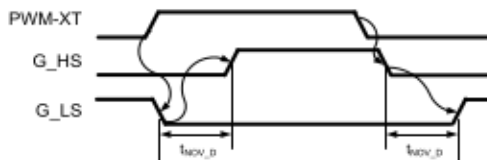

Figure 21: Local Mode operation
- Local Mode: PWM-XB and PWM-XT are generated from one input signal (PWM-XT) and proper non overlapping timing is managed locally on each phase of CXT-PLA3SA12550C gate driver board (cfr Figure 21)